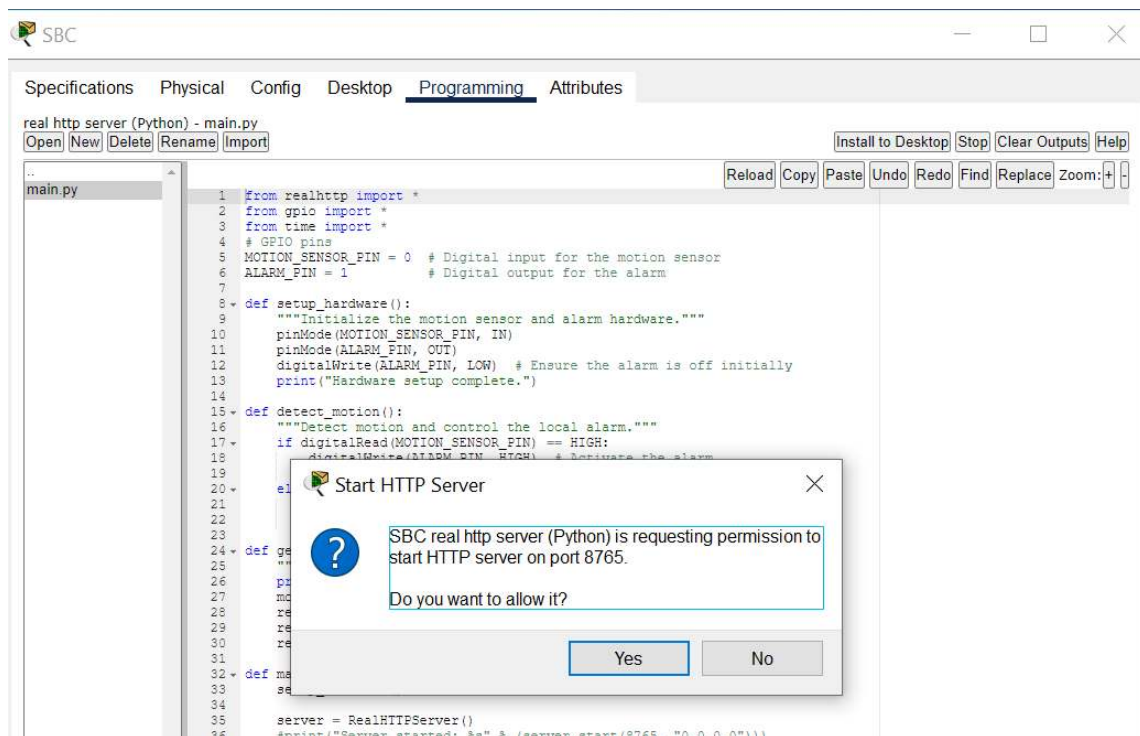

Figure 11.8: Start the Real HTTP Server.
5. Save and run the script. A pop-up window will appear and select 'Yes' option as shown in the Figure 11.8